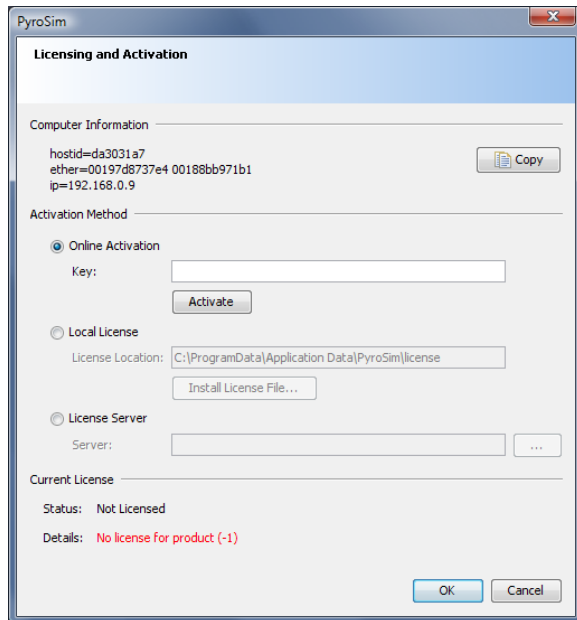

Figure 1.1. Licensing and Activation Dialog
4. Enter your **Registration Key** into the **Key** box shown in Figure 1.1.